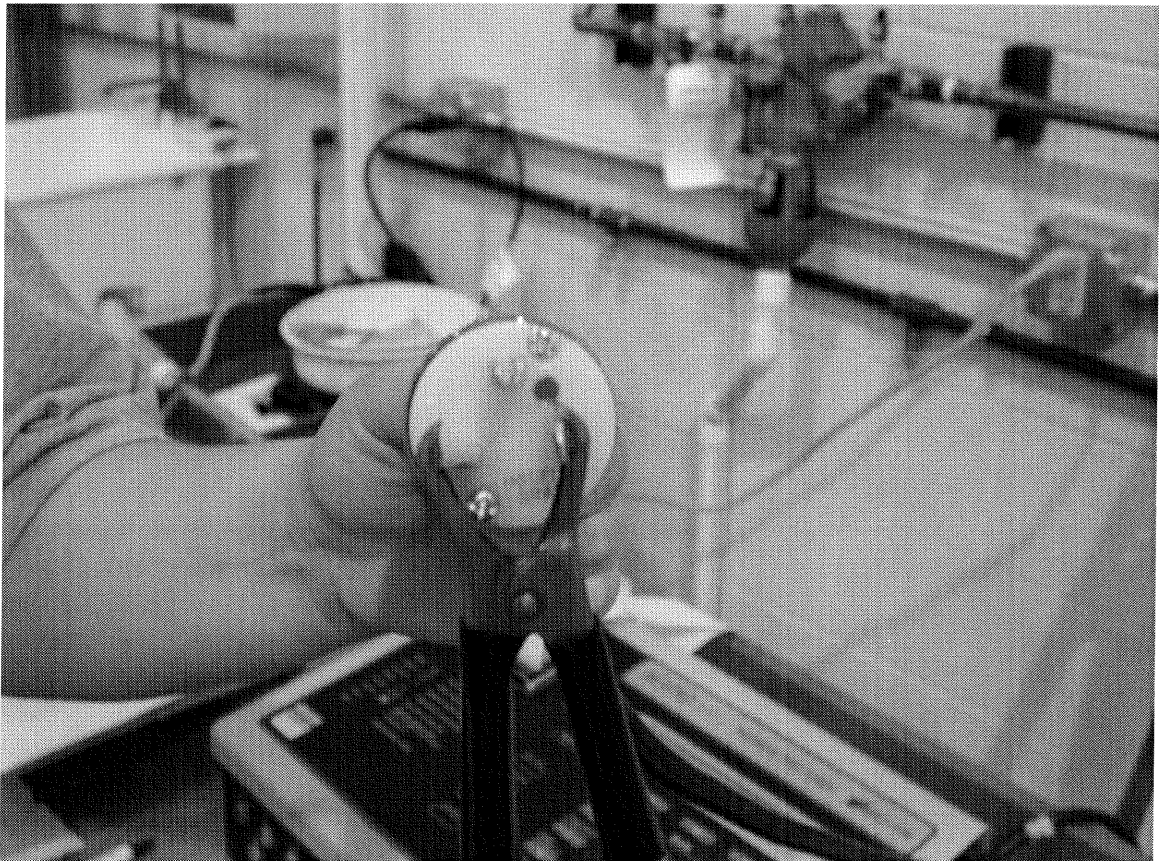

Figure 1: (Showing Hot and Neutral pins clamped together on a 20 amp plug).
- Reset Hi-Pot tester and clamp live and neutral leads of power cord plug (refer to figure 1) together to prevent damage to unit.